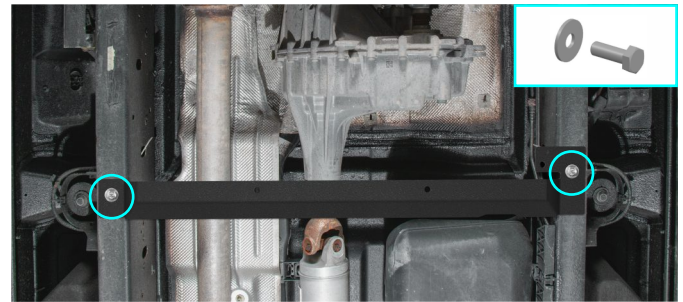

Fig. 2
2. Install beam (item 2) as shown in fig.2 and fix it using bolts M10x30 with penny washers M10 (items C, D).